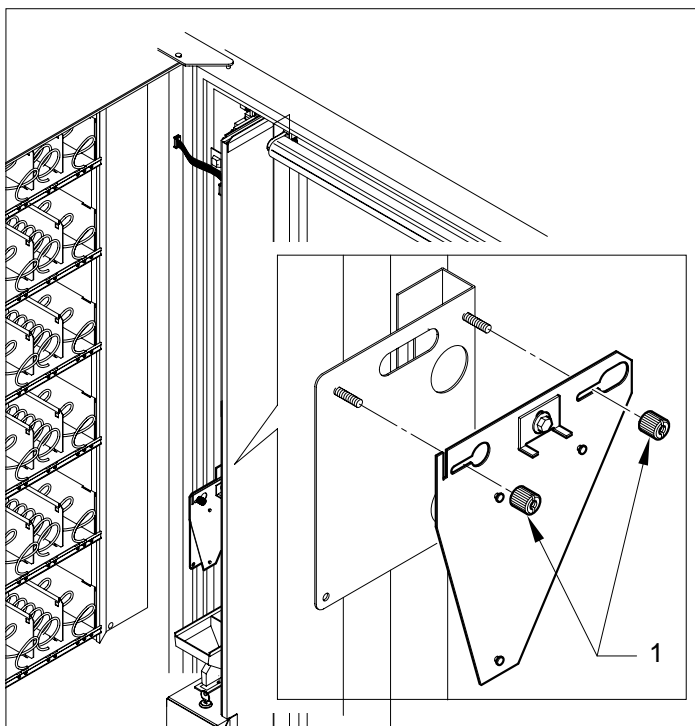

Fig. 6.12
- Unscrew the two knobs (Fig.6.12-pos.1)
- withdraw the support bracket from the machine (Fig.6.12)
- clamp the bracket using the two knobs (Fig.6.12-pos.1)